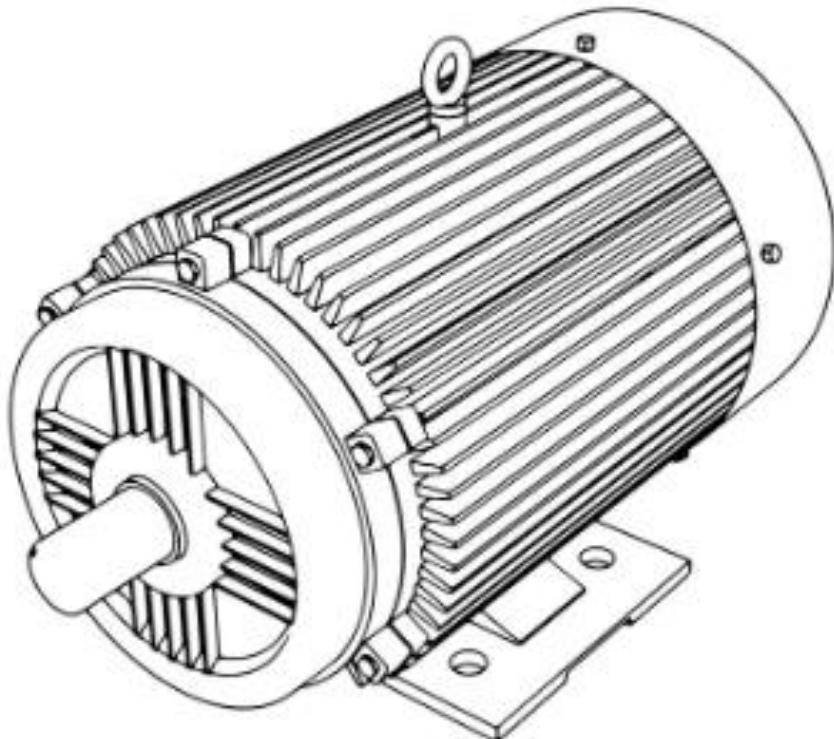

Figure 3
- i. Reassemble the rotating machine provided as shown in Figure 3.
- Insulation Resistance (IR) Test